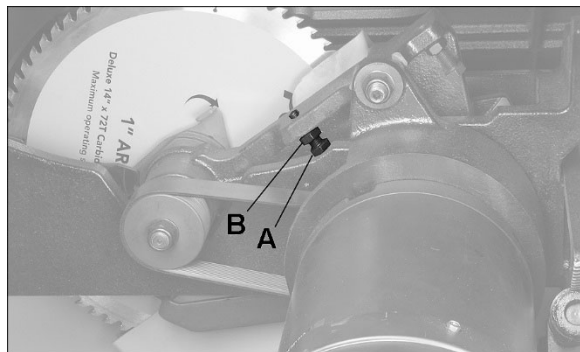

Figure 8-13
2. Open side cover and locate blade depth stop screw (A, Figure 8-13) located between arbor pulley and motor.
3. Using a 14mm open wrench, loosen hex nut (B, Figure 8-13). This will allow hex cap screw to be turned and saw blade to be adjusted lower.
6. The blade depth stop screw (A, Figure 8-13) should be resting against the trunnion. Verify this; then tighten hex nut (B, Figure 8-13).